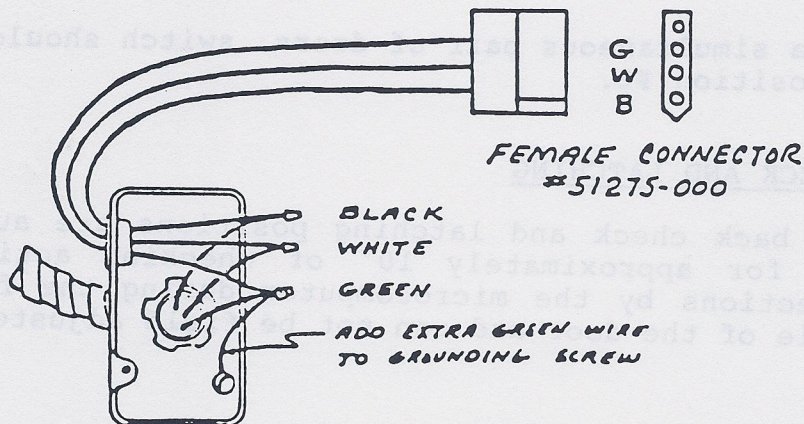

Fig. 6
7. Connect the black, white & green wires to the main power input 115V or 230V. (See Fig. 6)